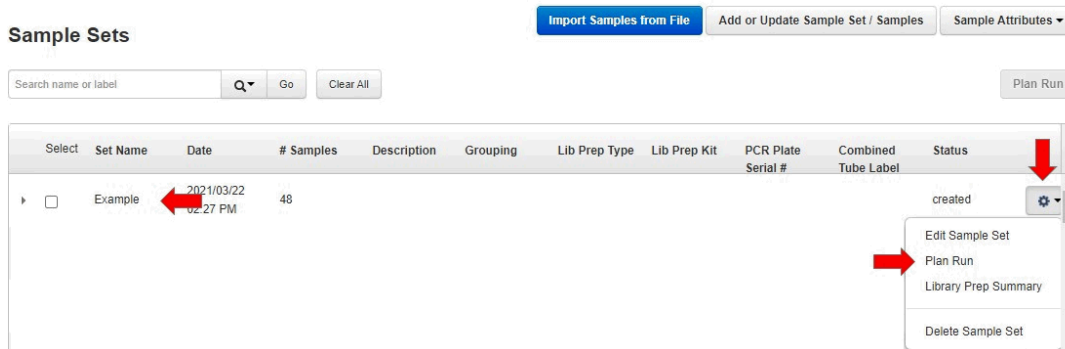

Figure 7. Screenshot of the “Plan run” drop down menu
6. Choose “Plan Run,” as shown in figure 7.